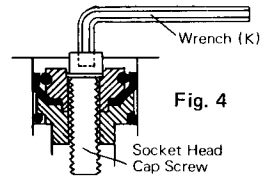

Fig. 4
2. Remove both **PISTON CAP SCREWS** (Fig. 4).